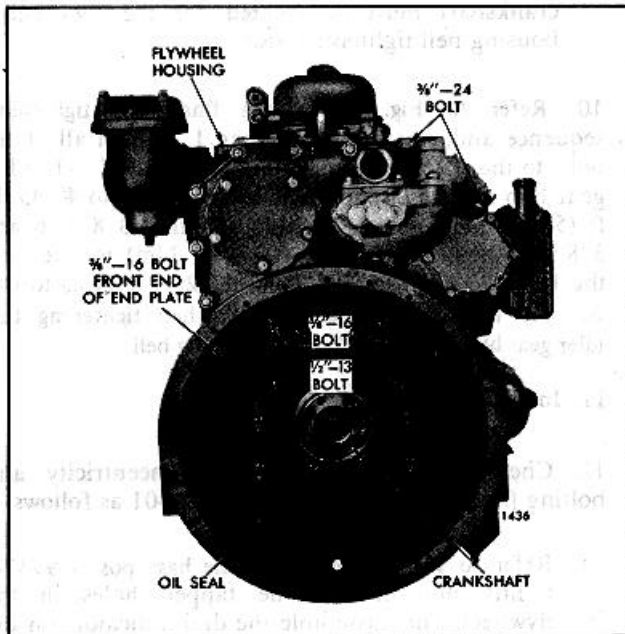

Fig. 1. Typical Flywheel Housing Mounting
The flywheel housing (Fig. 1) is a one-piece casting, mounted against the rear cylinder block end plate, which provides a cover for the gear train and the flywheel. It also serves as a support for the starting motor and the transmission.
4. Remove the twelve attaching bolts inside of the flywheel housing bell which attach the housing to the idler gear hub, spacer and cylinder block. Remove the twelve remaining bolts around the upper portion of the housing and the two bolts which go through the rear end plate from the front and thread into the housing (Fig. 1).